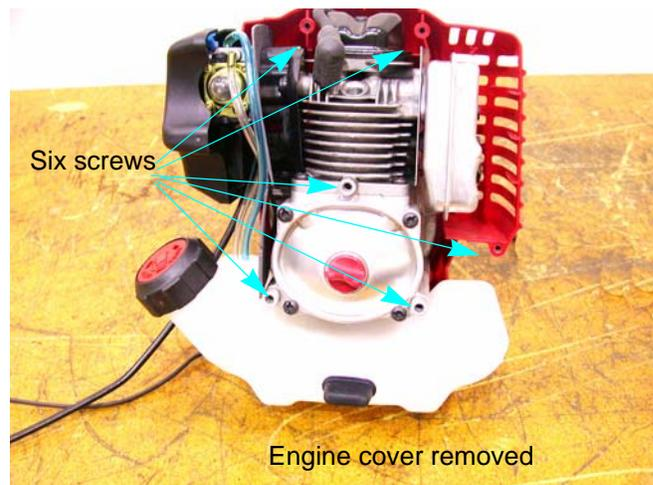

Figure 5.6
3. Remove the engine cover by removing the six screws that hold it in place. See Figure 5.6.